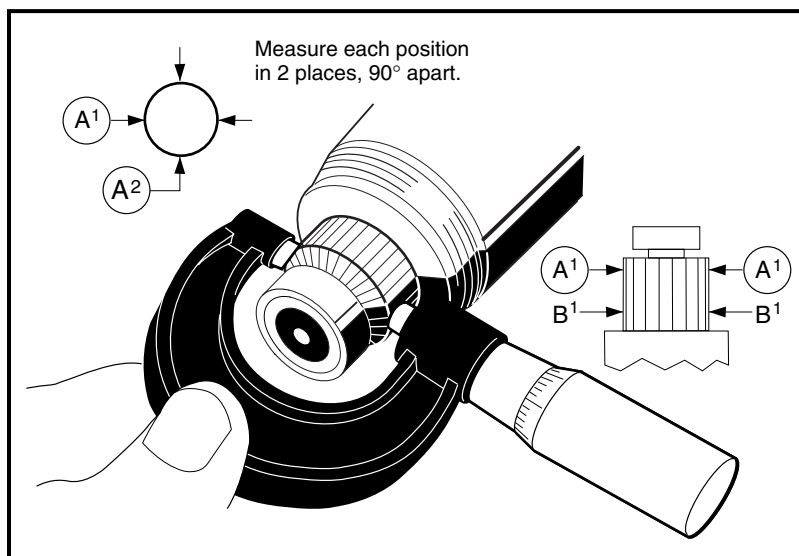

Figure 12-12 Inspect Commutator
2. Use a micrometer and measure the outside diameter at four points: two points 90° to each other to the outside end of the commutator (A1 and A2), and two points 90° to each other to the inside of the commutator (B1 and B2). If the commutator diameter is less than 1.535 inches (39 mm) at any of the four locations, replace the armature assembly and bearings (**Figure 12-12, Page 12-7**).